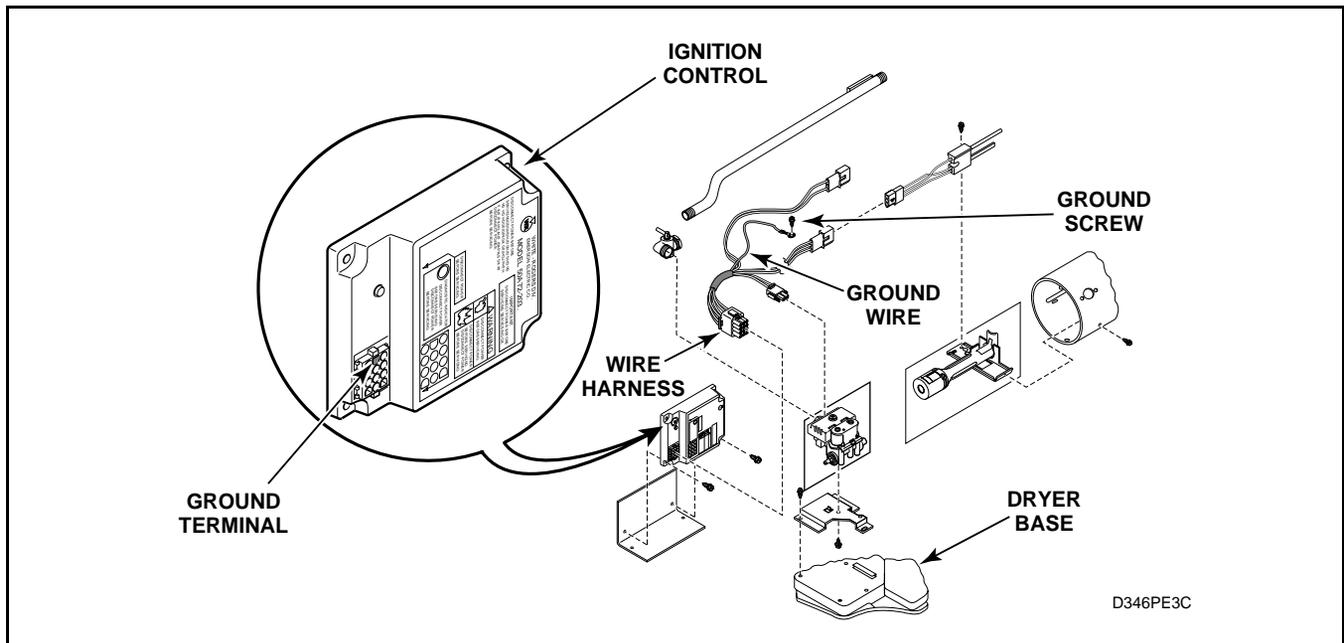

Figure 4
18. GROUND WIRES FROM DRYER BASE TO WIRE HARNESS AND TO IGNITION CONTROL . (Gas Models With Silicon Nitrate Ignition System – *Figure 4*).